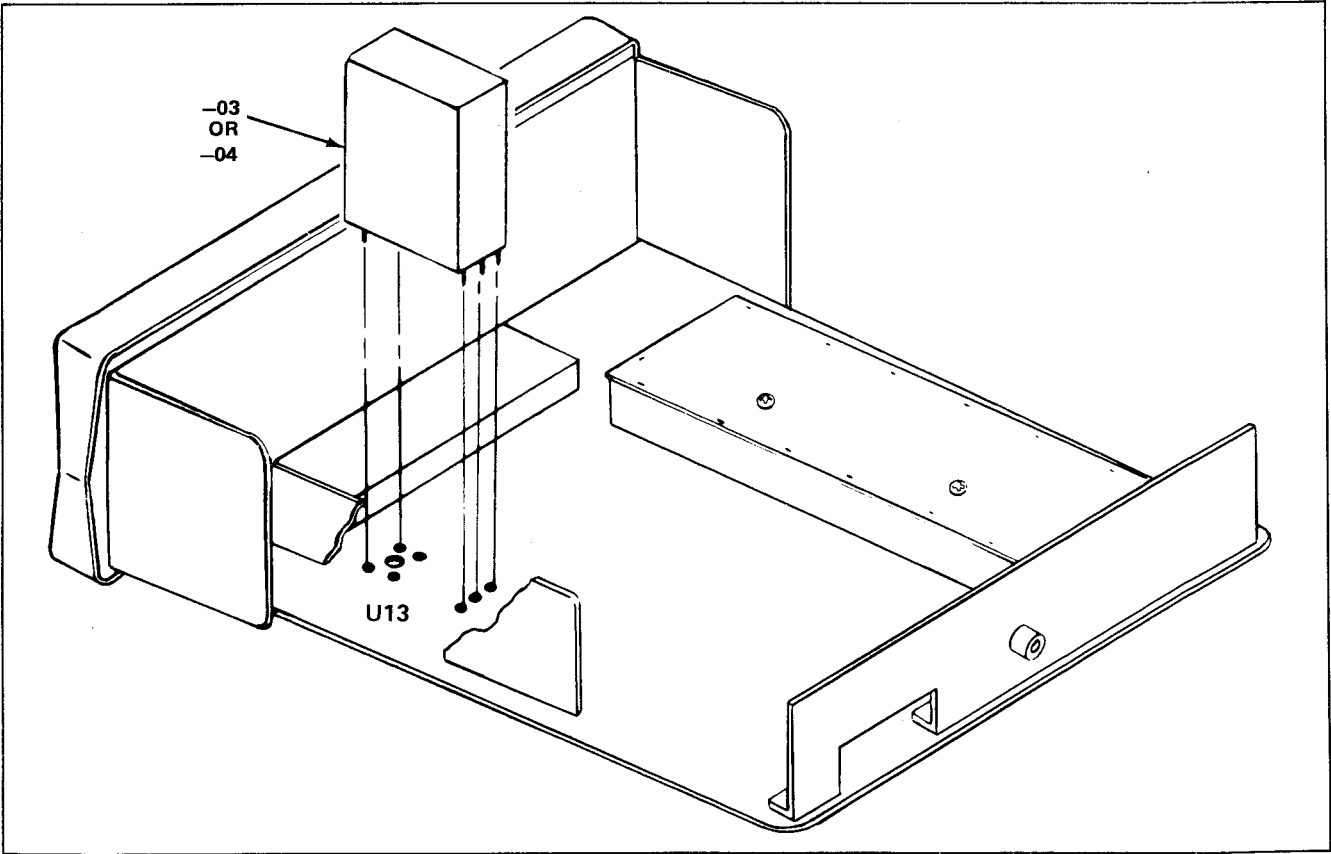

Figure 603-2. -03/-04 TCXO Assembly
603-5. The —03 TCXO is a completely sealed unit, containing no replaceable parts (See Figure 603-2).
- 604-5. The —04 TCXO is a completely sealed unit, containing no replaceable parts (See Figure 603-2).